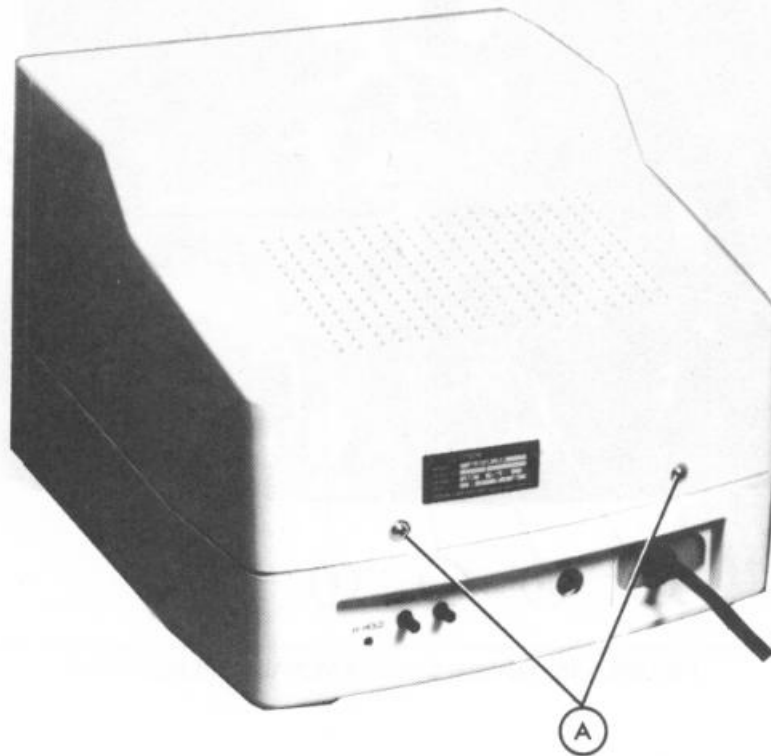

FIGURE 4-17. MONITOR UPPER CASE REMOVAL/REPLACEMENT
4.5.1 Monitor Upper Case Removal (Figure 4-17)
4.5.2 Monitor Upper Case Replacement (Figure 4-17)